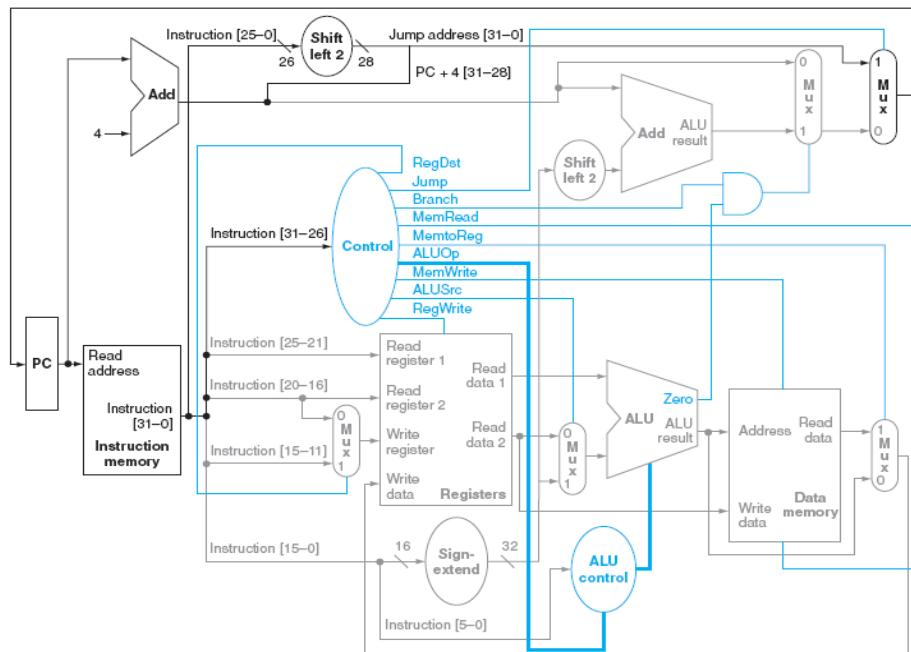
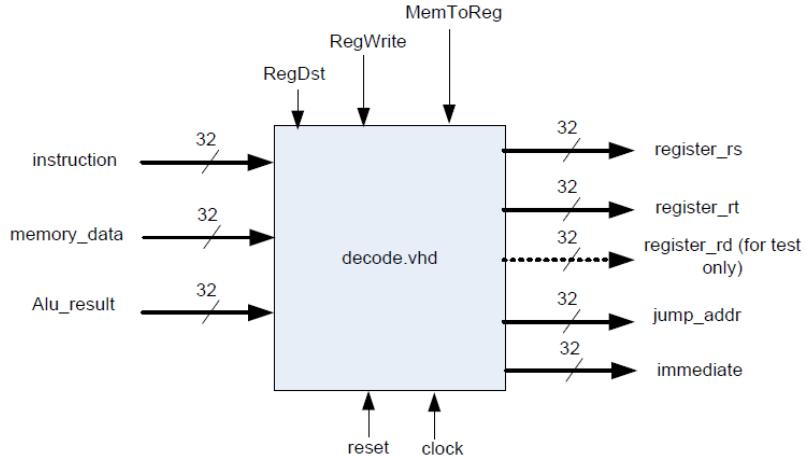
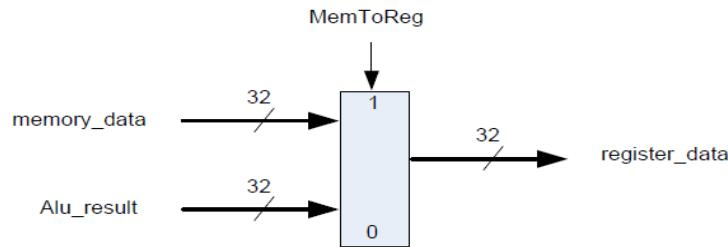

Figure 8-1: Single Cycle MIPS Datapath
Figure 8-2: Decode Module
Figure 8-4: Multiplexer that selects the source of data to be sent to the destination register
The decode module in the overall data path diagram is shown in a blue circle in Figure 8-1. The functional block diagram of the decode module is depicted in Figure 8-2. In this design, the registers will be placed inside the decode module. Note from the diagram that the decode module includes output signals denoted *register\_rs* and *register\_rt*. These are two register values read from the register file pointed by the rs and rt fields of the instruction, which will be sent to ALU. It also includes *jump\_addr* and immediate signals that are directly decoded from the instruction. The job
- The second multiplexer determines whether the data to be stored at the destination register is coming from ***Alu\_out*** or ***memory\_data (read\_data)*** in Figure 8-1). This relationship is shown in Figure 8-4